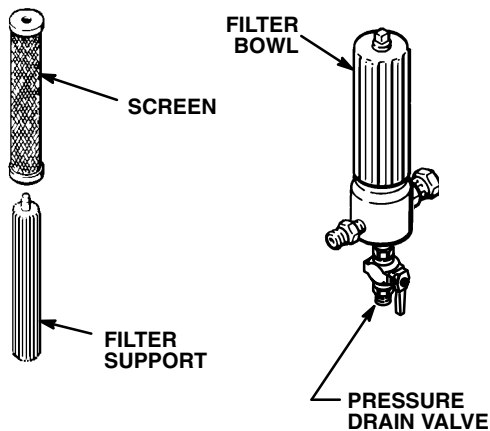

Fig 3
2. Remove the filter bowl and screen; see manual 307–273. Clean the screen separately and install the bowl without the screen to flush it. See Fig 3.